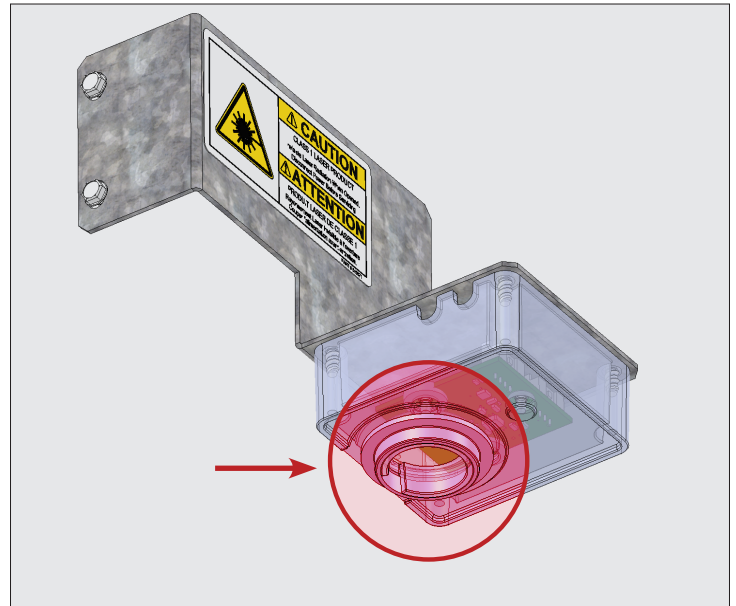

Fig. 2. Ice level sensor lens location.
4. Pull the assembly out and flip it upside down to reveal the lens. See fig. 2.